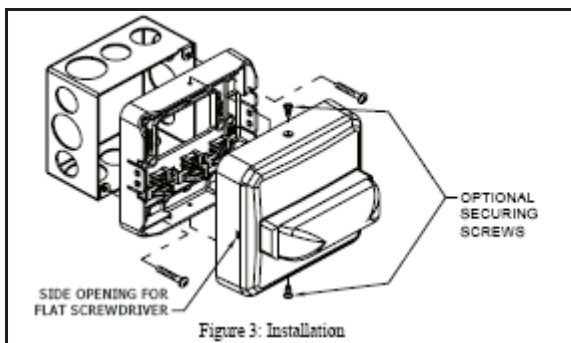

Figure 3: Installation
5. Remove dust cover before snapping or installing the appliance onto the mounting plate per fig 3.